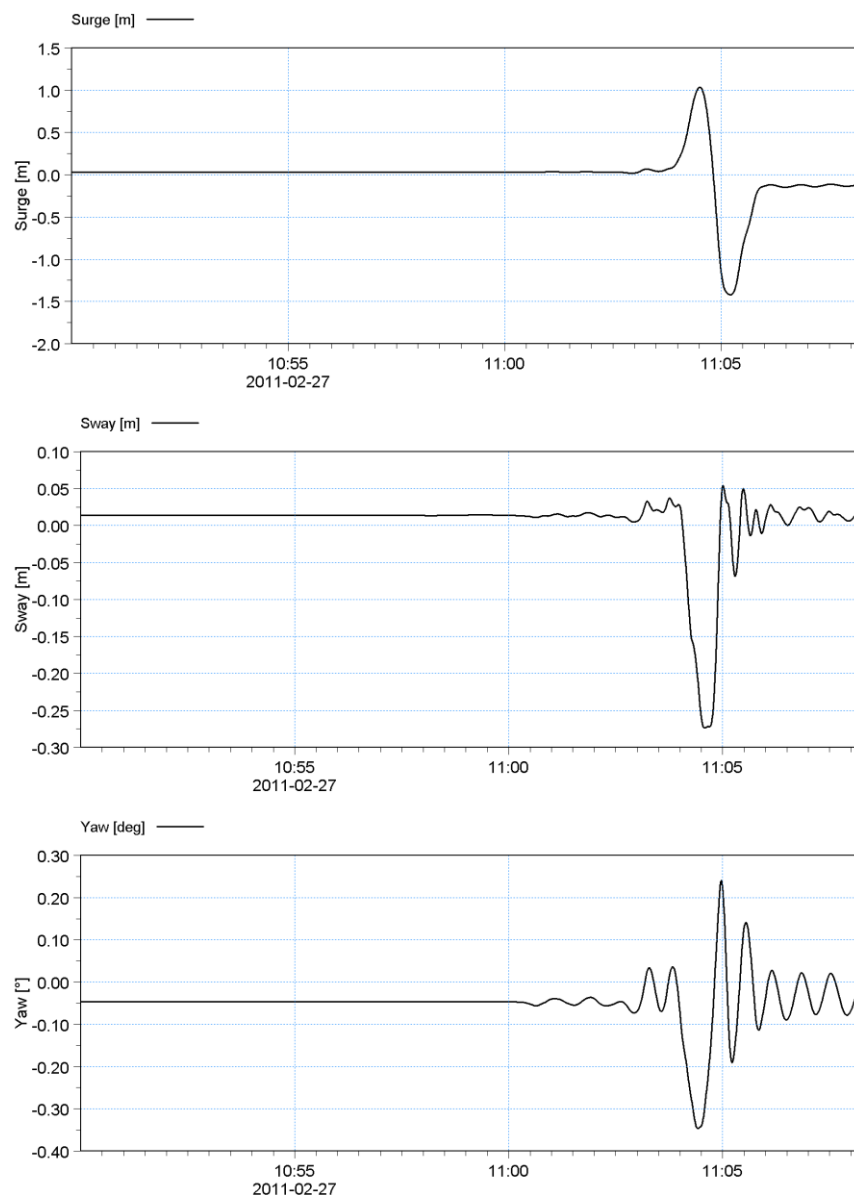

Figure 3-24 Passing vessel induced moored vessel motions - surge, sway and yaw
15. Open the newly created *Vessel1_motions.dfs0* file and plot the *Surge, Sway and Yaw motions*. You should see that the vessel is stable until around 11:05 when the passing vessel generated displacement waves arrive at the berth and induce a large surge motion of the moored vessel. Motions in the other degrees of freedom are relatively small. Your plotted surge, sway and yaw motions should appear as shown in Figure 3-24.